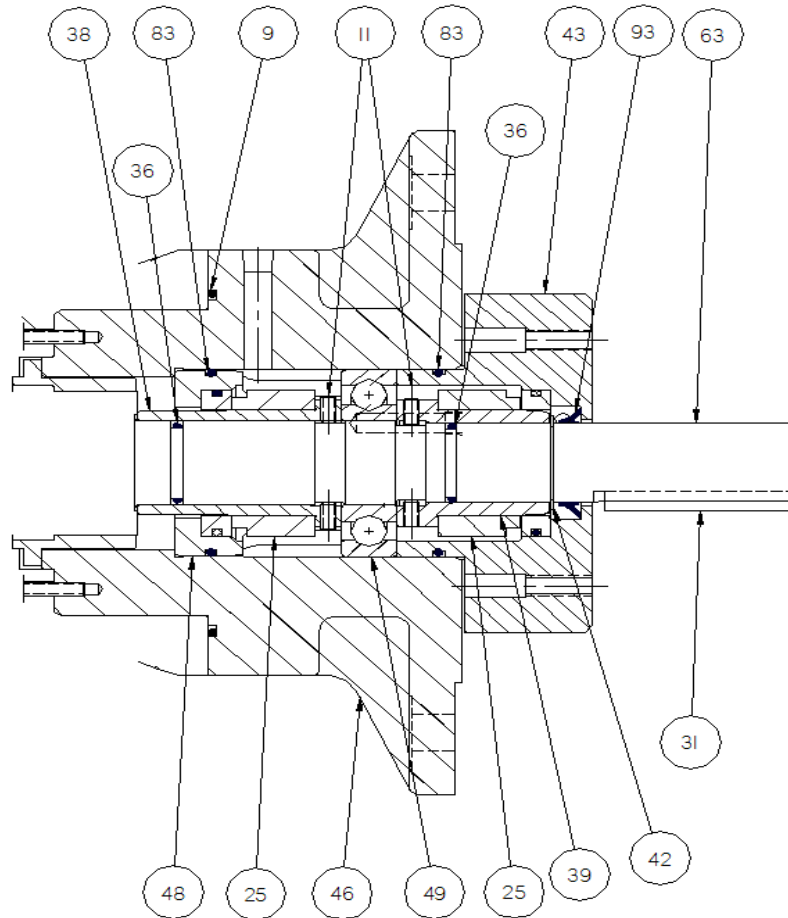

Figure 2
1. Install O-ring (28) in groove of discharge housing (24).
2. Install discharge housing (24) in pump case (1), from suction end of case, aligning groove in housing (24) to stop pin hole in case (1). Install stop pin (6) with Dyna Seal (7) in case (1).
3. Install O-rings (27) on oil balance tube (26) and oil balance tube (26) in discharge end of inlet housing (73). Install vent pins (3) in same end of inlet housing (73).
4. Install assembled inlet housing (73) in case (1), ensuring that oil balance tube (26) and vent pins (3) engage holes in discharge housing (24).
5. Install housing snap rings (8) in case (1).
6. Install balance piston (79) on inboard cover (46). Install idler stop (22) on inboard cover (46) with cap screws (81). Torque cap screws to value on assembly drawing. (Also see note 2 above for correct torque on these capscrews since they have nylok threads.) Install O-ring (9) on inboard cover (46).
7. Install inboard cover (46) on case (1) using bolts (4). Be sure seal return line (70) is facing up. Torque bolts to value on assembly drawing.
8. Assemble power rotor (63) as follows (See assembly drawing and Figure 2.)